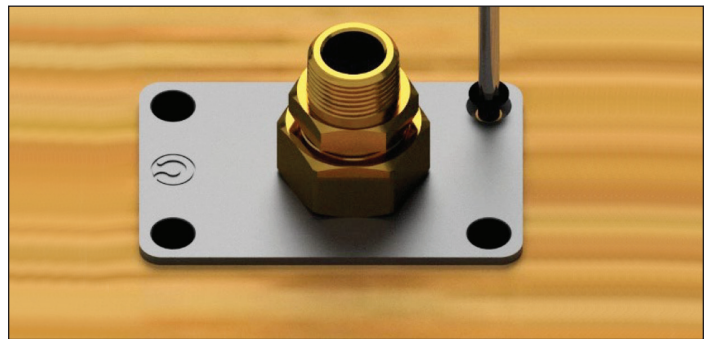

Figure: 1-8
11. Feed the Flange Assembly down through the clearance hole and mount the Rectangular Flange using appropriately sized screws to provide a firm mount (Figure 1-8).